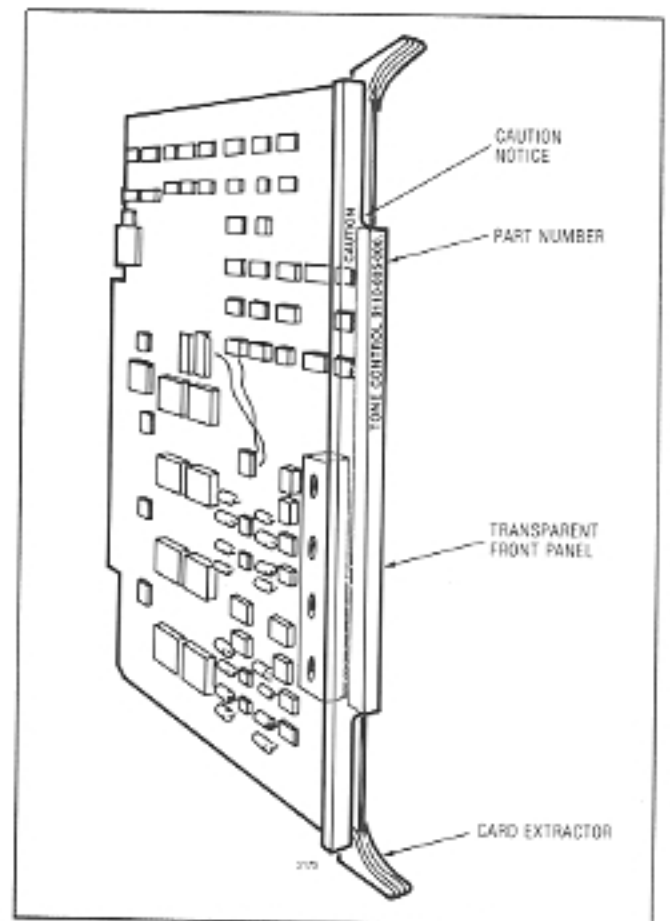

Fig. 2-4 Typical Printed Circuit Card
2.14 All circuit cards (Fig. 2-4) within the SX-100 are identical in construction and consist of a fiberglass board with printed wiring patterns on both of its faces. Riveted to the front of each board is a transparent faceplate which allows the LEDs mounted on the front of the boards to be easily seen. The color-coded card extractors located at the top and bottom of the faceplate identify the card position within a shelf and ensure that the card is seated correctly in the backplane connector.